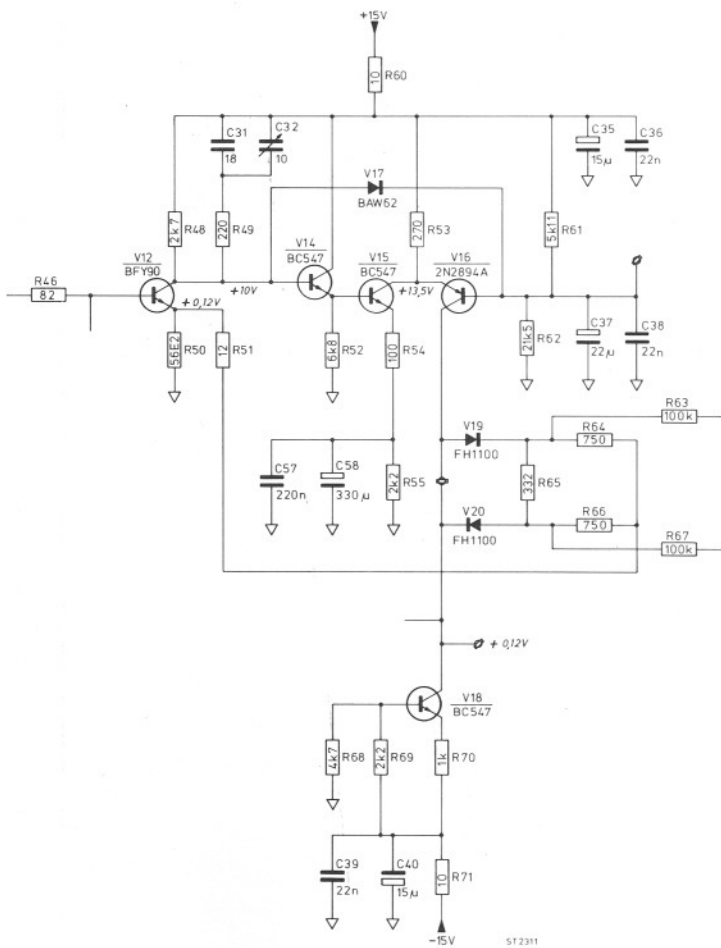

Fig. 9. AC - DC Converter
**AC—DC converter, fig. 9, 10**